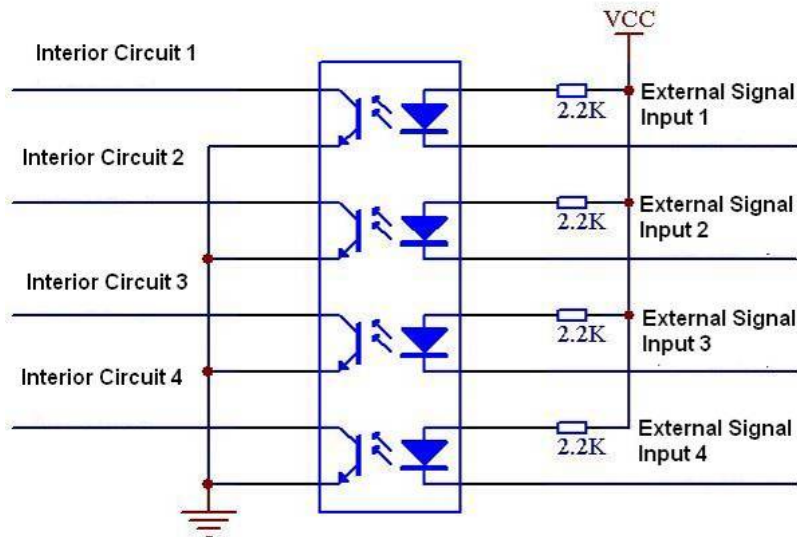

Figure 3-8
- Please refer to Figure 3-8 for alarm input module information.